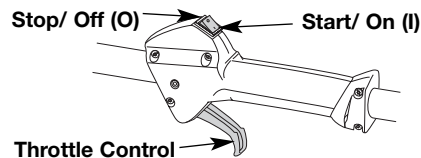

Fig. 11
3. Make sure the On/Off Stop Control is in the ON (I) position (Fig. 11).